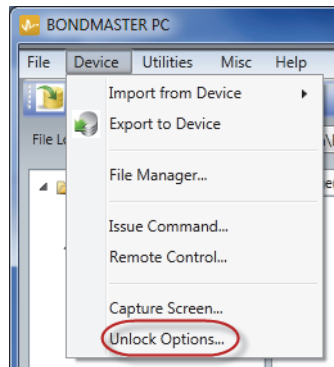

Figure 7-21 The Unlock Options command
1. On the BondMaster PC software **Device** menu, select **Unlock Options** (see Figure 7-21 on page 208).